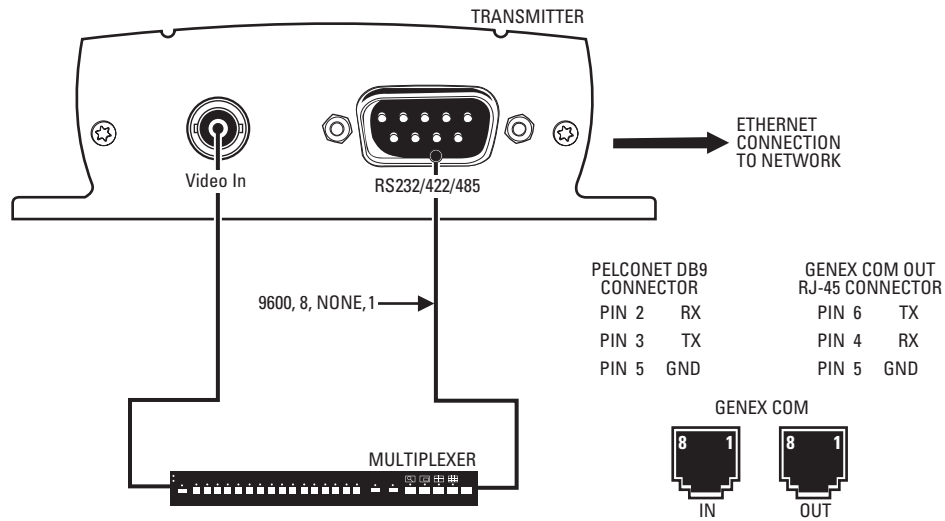

Figure 48. Connecting PelcoNet to Genex Using the COM Port
Refer to Figure 48 and the instructions that follow.
3. Create a cable using the diagram in Figure 48.